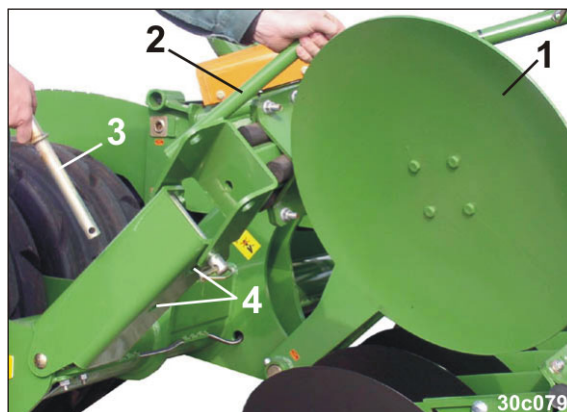

Fig. 159
5. Put the right-hand outside hollow disc (Fig. 159/1) in transport position by shifting the lever (Fig. 159/2).
Hold the side disc (Fig. 159/1) only by the lever (Fig. 159/2).
6. Secure the side disc in transport and operational position with a pin (Fig. 159/3) in the holes (Fig. 159/4).